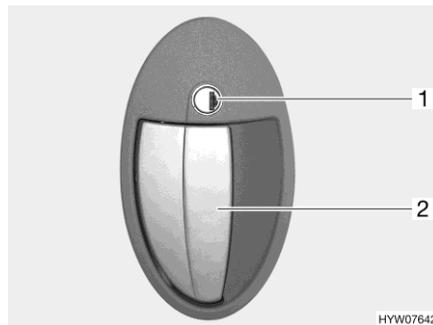

Fig. 28 Door lock (conversion door, outside)
- Insert the key in the locking cylinder (Fig. 28,1) and turn it in a clockwise direction until the door lock is unlatched.
- Pull on the door handle (Fig. 28,2). The door is open.
- Insert the key in the locking cylinder (Fig. 28,1) and turn it in an anti-clockwise direction until the door lock is engaged.